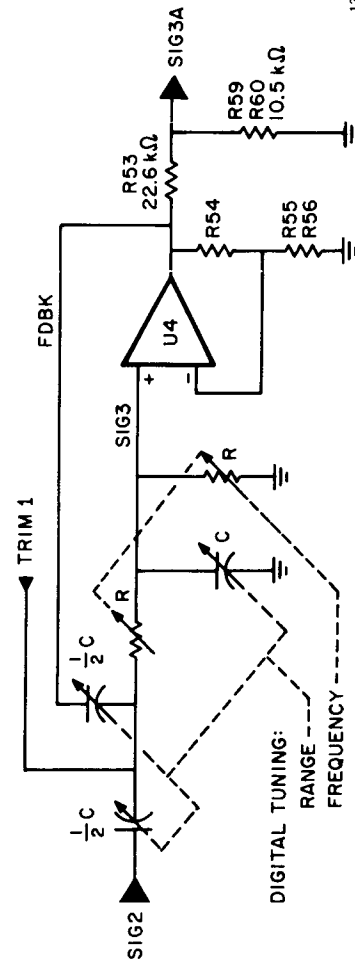

Figure 4-4. The filter used for tuning FREQUENCY - simplified diagram.
4.3.3 Digital Tuning Filter (Panel; B board). Figure 4-4.
where the subscripts are assigned left-to-right in Figure 4-4; the nominal values are so related that: $C_1 = C_2 = \frac{1}{2} C_3$ and $R_1 = R_2$. Ideally, to make $G_0 = 100$, $K = 5.94$; and to make the bandwidth 3%, $Q = 33$.